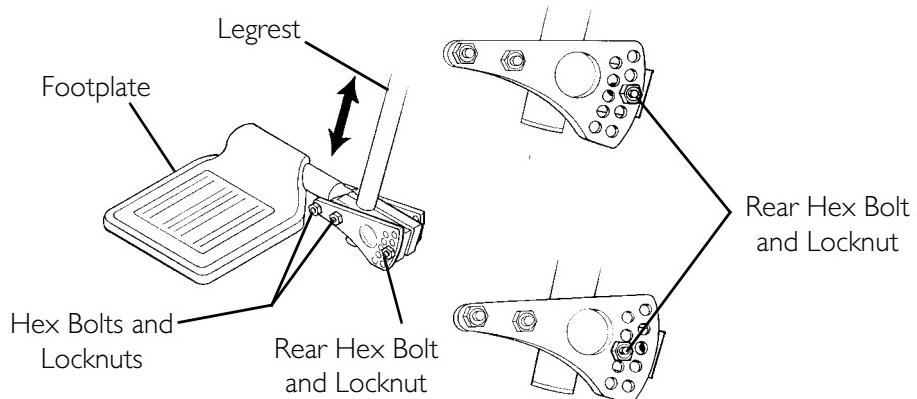

FIGURE 6.20 Adjusting Genius Legrests - Footplate Height/Footplate Angle
NOTE: For this procedure, refer to FIGURE 6.20.
1. Note the angle of the footplate in relation to the legrest as shown in FIGURE 6.20.
NOTE: For this procedure, refer to FIGURE 6.20 on page 78.